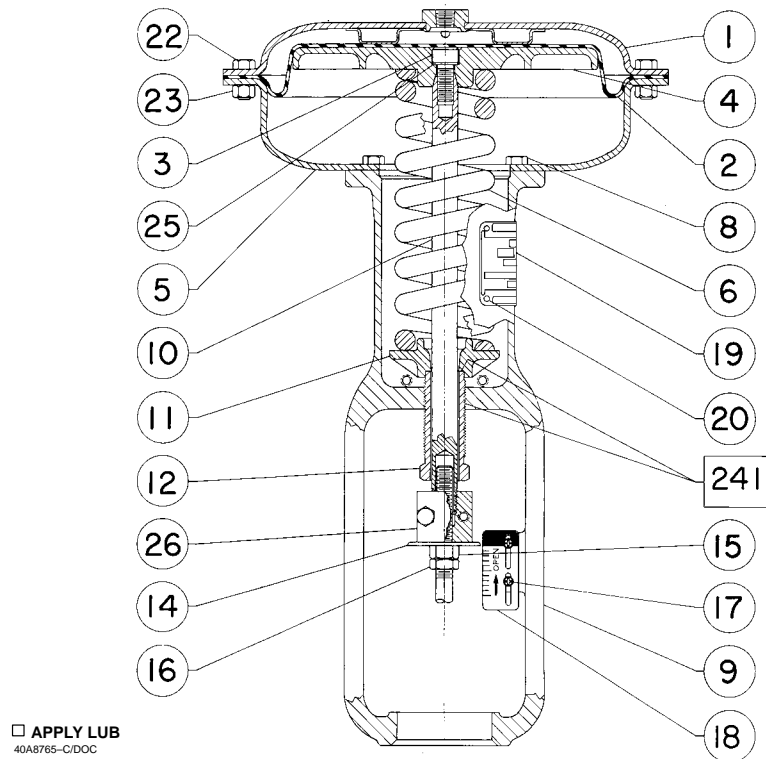

Figure 6. Type 657 Actuator Sizes 30 through 60
1. Remove the travel stop cap (key 187) and loosen the travel stop nut (key 137). Rotate the travel stop stem (key 133) counter-clockwise until the travel stop assembly is no longer compressing the spring.
2. Remove the upper diaphragm casing (key 1, figures 6, 7, or 8) as outlined in the Maintenance section.
5. **For sizes 30 through 60**, drive out the groove pin (key 140), and slide the pusher plate (key 135) off the travel stop stem (key 133).
1. Remove the travel stop cap (key 187). Unscrew the jam nut and stop nut (keys 189 and 54) until the travel stop assembly is no longer compressing the spring. Remove the jam nut and stop nut.
5. Loosen the stop nut (key 54), then unscrew the travel stop stem (key 133) out of the actuator stem. The lower diaphragm plate can now be removed.
1. Reassemble the up or down travel stop in the reverse order of the disassembly steps, being sure to apply lubricant as shown by the lubrication boxes (key 241) in figures 6, 7, 8, 14, 15, or 16, as appropriate.
Actuator Assembly (figures 6, 7, or 8)